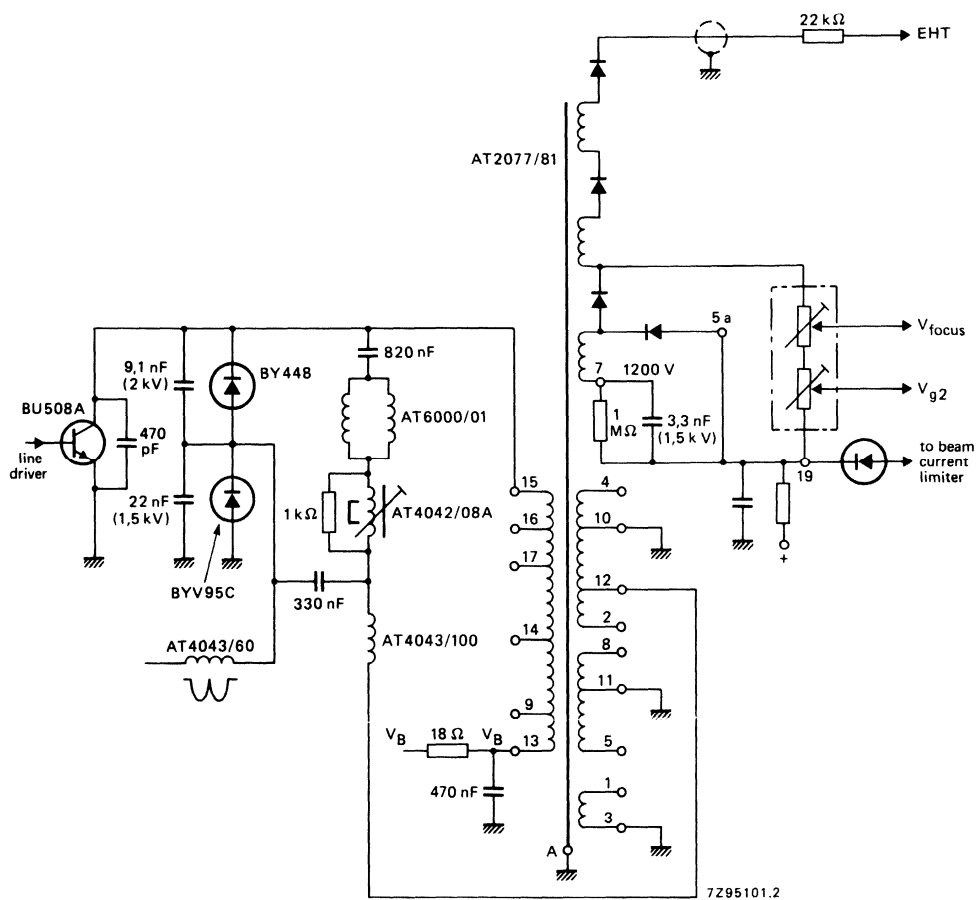

Fig. 7 Application circuit (110o).
**ELECTRICAL DATA;** for use with 110° colour picture tubes, see Fig. 7.